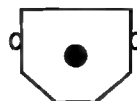

FIGURE 22: FIBER OPTIC CABLE CONNECTOR
4. The cable and machine linking connectors are keyed so that they can only be connected when the longest flat side of the cable connector is facing up (see Figure 22).